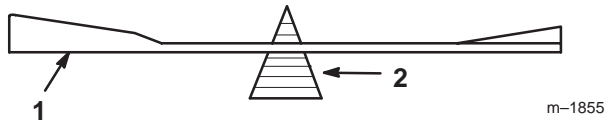

Figure 21
2. Check the balance of the blade by putting it on a blade balancer (Fig. 21). If the blade stays in a horizontal position, the blade is balanced and can be used. If the